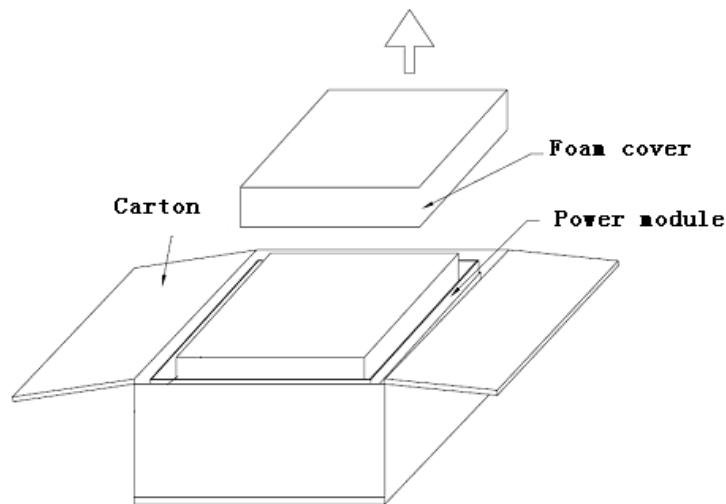

Fig.3-7 Remove the foam cover
4. Remove the foam cover (See Fig.3-7).